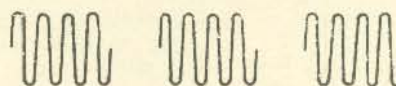

FIG. 29.—I.C.W.
- (b) *Interrupted continuous wave* (I.C.W.) (fig. 29).—A radio frequency wave interrupted at regular intervals of an audio-frequency; this interruption is carried out by means of a "tone wheel" (see Chapter 3, paragraph 3 (b) (i)).